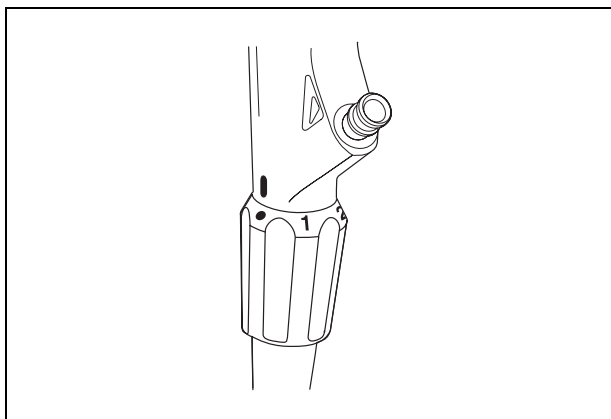

Figure 3.4
1. Confirm that the index markings (“●”, “1”, “2”, “3”) on the flexibility adjustment ring and the “” mark at the bottom of the grip section are clearly visible (see Figure 3.4).